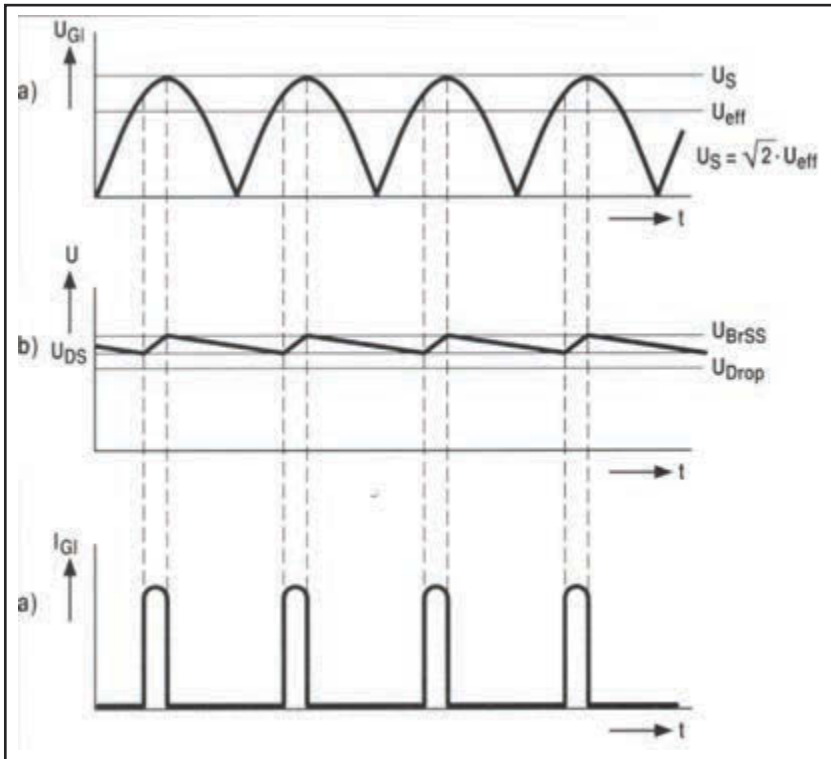

Figure 3: These curves represent the fundamental ratios at the rectifier and the charging capacitor.
**Figure 3** shows curves that represent the fundamental ratios at the rectifier and the charging capacitor. In contrast to silicon rectifiers, rectifier tubes tolerate current spikes to a limited extent. For example, the typical and inexpensive 1N4007 rectifier diode can sustain a maximum reverse voltage of 1,000 V and a constant current of 1 A with a single surge current of up to 50 A for a 60 Hz half-wave without any component failures. However, this would be absolutely deadly for a rectifier tube. The momentary surge current stability of silicon rectifiers means no major measures for limiting the current need to be taken.
In principle, the rectification increases the transformer's effective voltage by the factor  $\sqrt{2}$ . Since there is no perpetual mobile, the transformer's AC current must theoretically be increased by the same factor. In fact, it is sufficient to calculate using a factor from 1.2 to 1.3 since the electricity is not drawn in full sine half-waves but only for as long as the rectifier diode is open (see **Figure 3**).